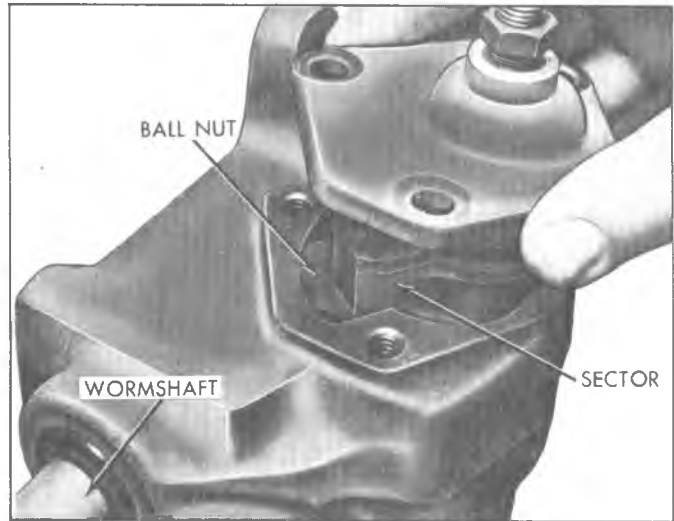

Fig. 5-Removing Pitman Shaft Assembly-Typical
4. Tap lightly on the end of the pitman shaft with a plastic hammer and lift the side cover and pitman shaft assembly from the gear housing (fig. 5).